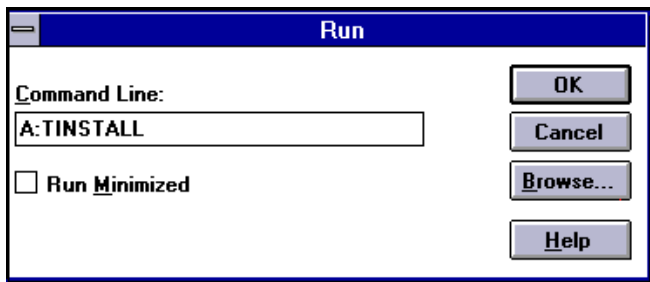

Figure 3-10.
- ☑ 5. TYPE in “A:TINSTALL” (if the display driver disk is in the B drive then TYPE in “B:TINSTALL”) and then PRESS ENTER (see Figure 3-10).